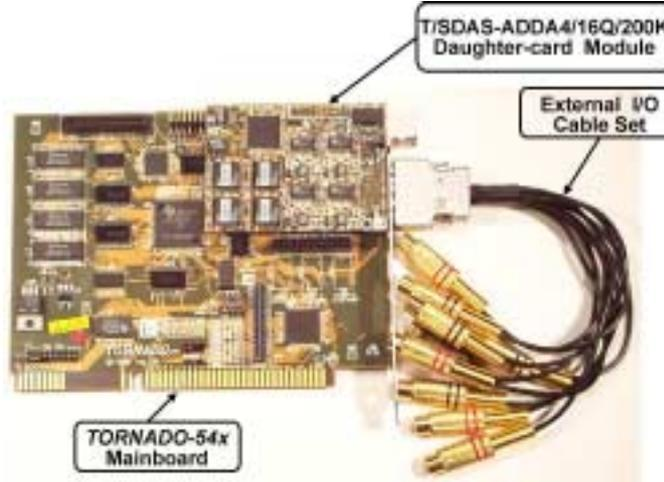

Fig. 1-2. T/SDAS-ADDA4/16Q/200K DCM installed onto TORNADO-54x mainboard.
*T/SDAS-ADDA4/16Q/200K* DCM installs as SIOX DCM (fig.1-2) into the SIOX site onto *TORNADO* DSP mainboard. If required, the *T/SU-X* SIOX extender can be used for remote connection to SIOX interface of *TORNADO* mainboard.